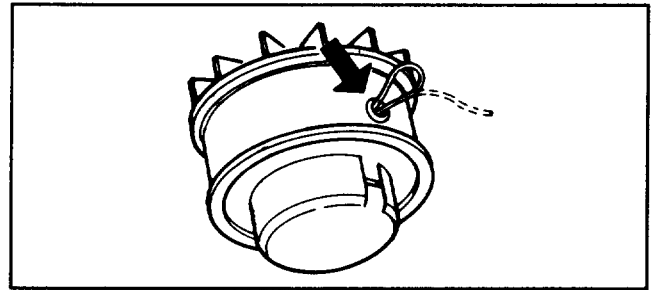

Figure 8
2. After each use, either retape or loop the line through the eyelet (Fig. 8) to prevent unraveling.
10. After each use, either retape or loop the line through the eyelet (Fig. 8) to prevent unraveling.